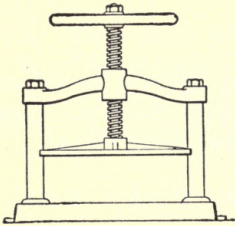

FIG. 106.—Letter Press.
7. There are four wrought iron bolts in the press shown in Fig. 106. If the capacity of the press is 10,000 lbs., what size should the bolts be?